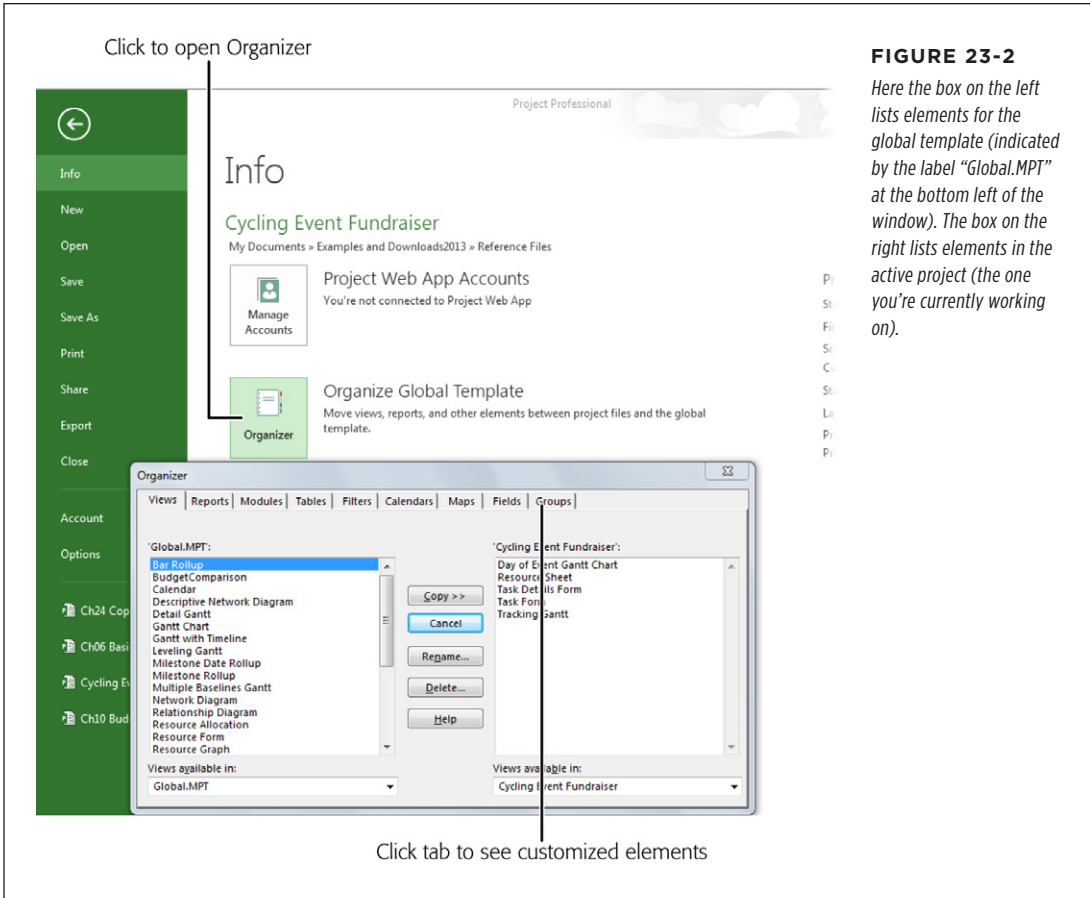

FIGURE 23-2
As you can see in Figure 23-2, the Organizer bristles with tabs, one for every type of element you can customize. (There's no tab for custom formulas, because they belong to custom fields.) When you select a tab, the Organizer displays the elements available in two different Project files: initially, the global template on the left side, and the active Project file on the right. However, on either side of the Organizer, you can select any Project file that's open, which is how you copy elements between files.
The Organizer dialog box opens. It contains several tabs to cover all the elements it handles, as illustrated in Figure 23-2.
- 3. In the list on the right, select the element you want to copy to the global template, such as Day of Event Gantt Chart in Figure 23-2, and then click Copy.**